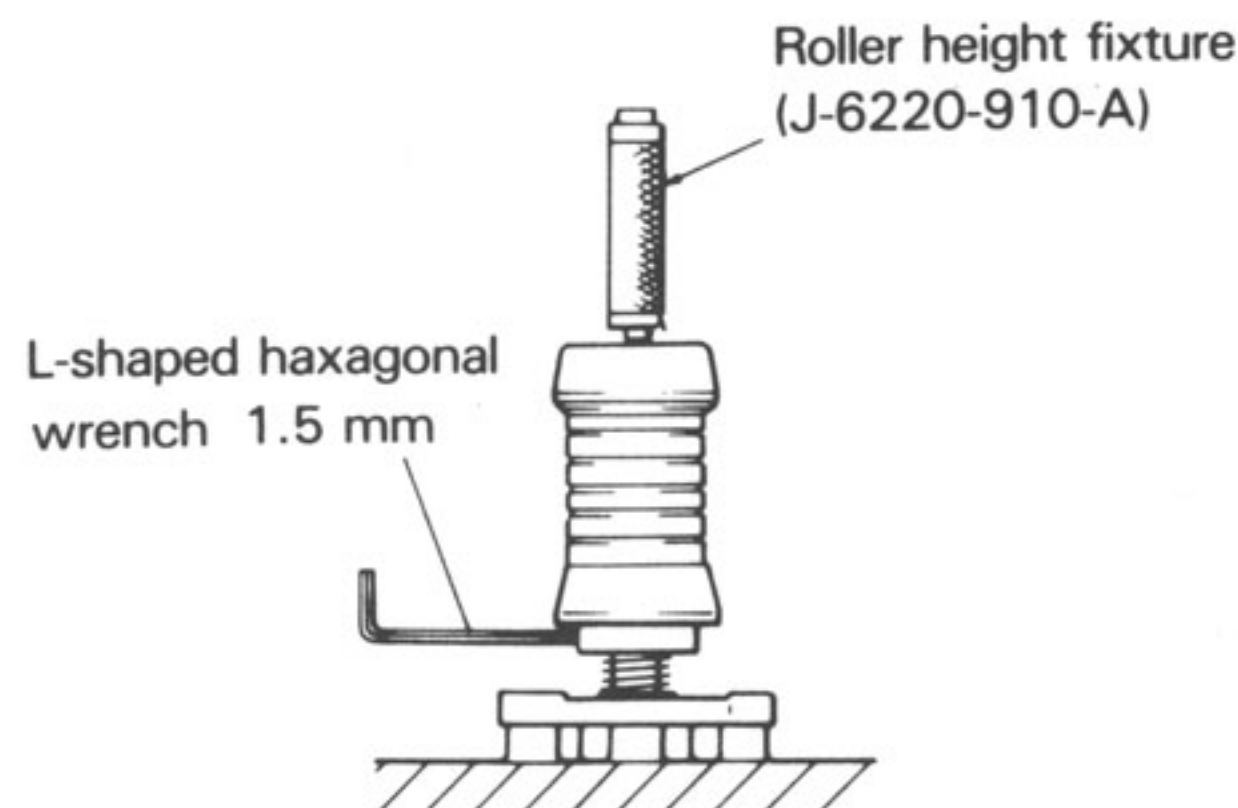

Figure 6-6. Timer Roller Height Adjustment
- STEP 2.** Install the roller height fixture onto the timer roller as shown in Figure 6-6, so that the end of the fixture is flush with the top of the timer roller.